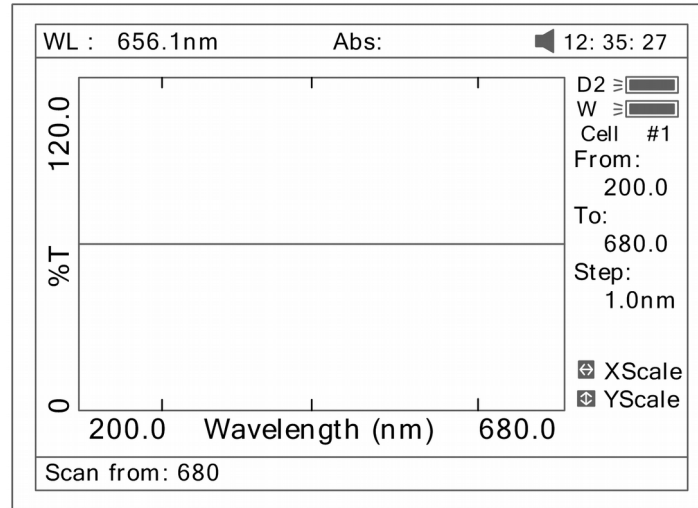

Fig 42
1. Press **(F1)** to setup, input the start wavelength, and end wavelength by pressing the numeric keypad (Fig 42). Note: This instrument scans from high to low wavelength. Browse and select the items of scan step and scan speed by pressing **(^)** or **(v)**.